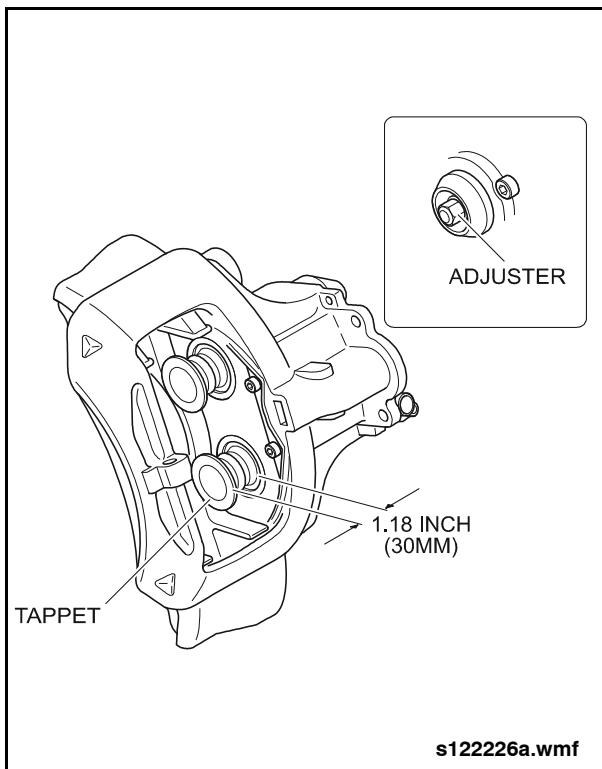

Fig. 1-65: Unscrewing Tappets
2. Rotate the adjuster clockwise until the tappets extend approximately 1.18" (30) from the caliper surface. This will allow full extension of the tappet rubber boot for insertion of the removal tools. See "Fig. 1-65: Unscrewing Tappets" on page 70.